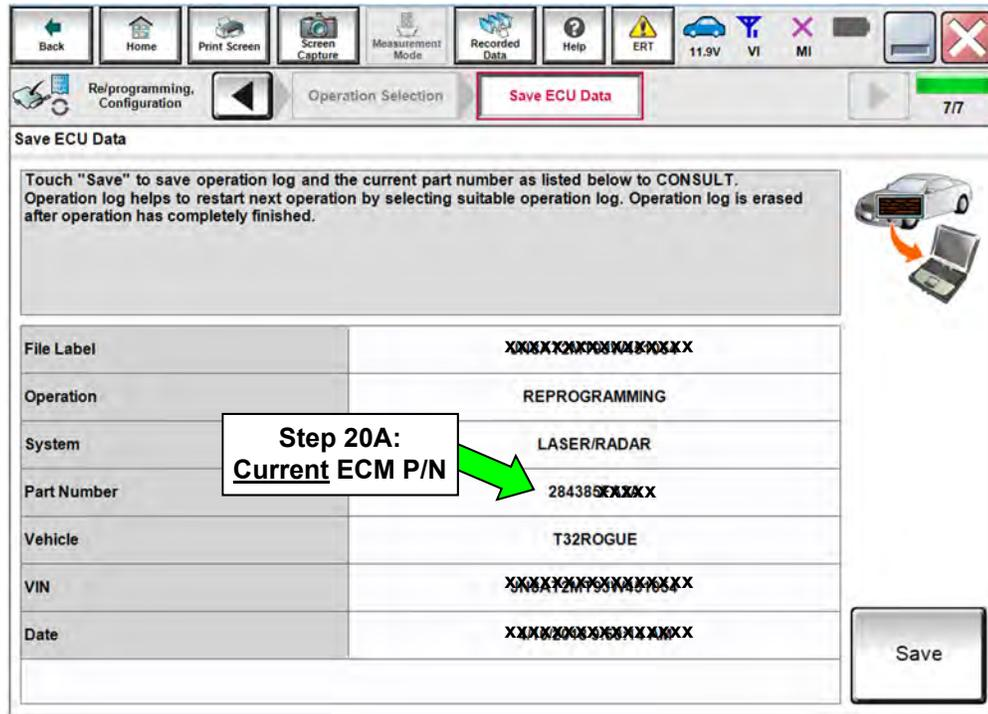

Figure 9
20. When you get to the screen shown in Figure 9, confirm that a reprogram is available as follows.